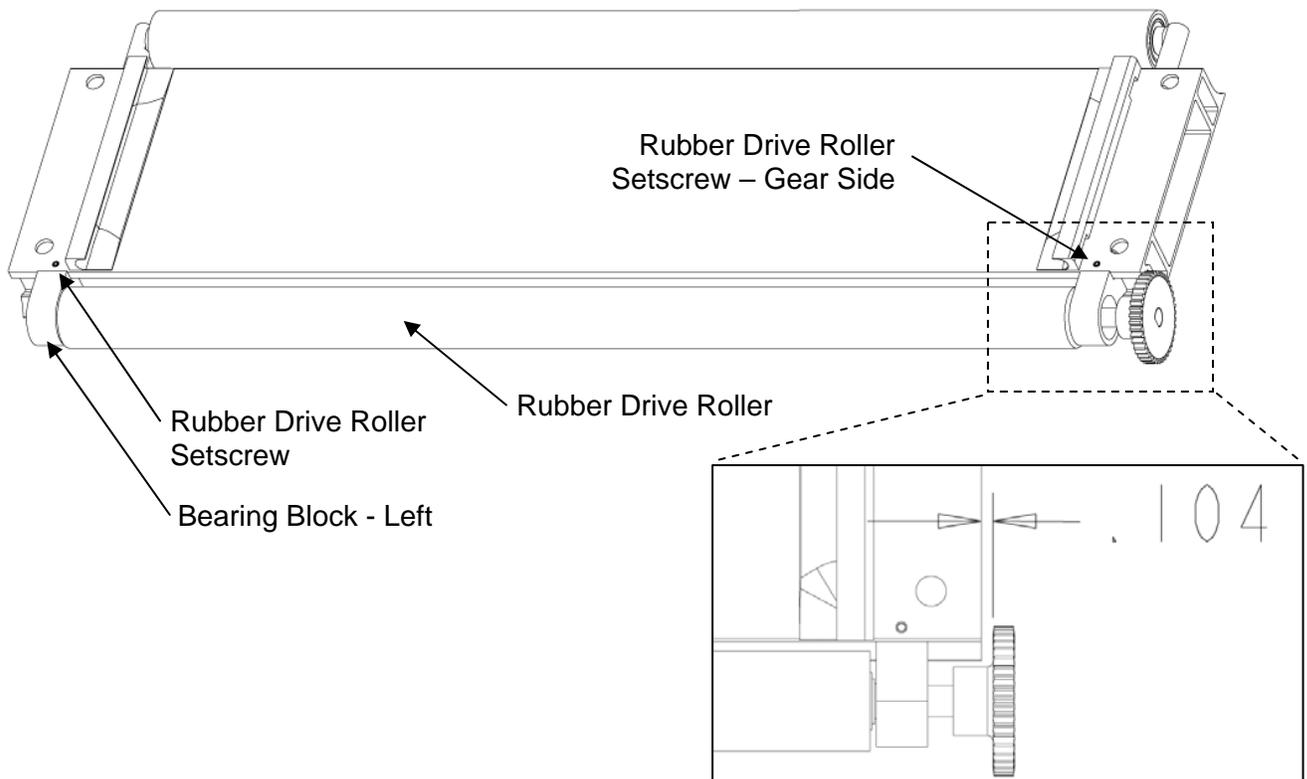

FIGURE 9: CHECKING THE SPACING OF THE DRIVE GEAR
15. **Check for slop in the drive roller.** Grab the rubber drive roller and attempt to move it side to side (in the length direction of the roller). If there is any movement at all you will have to reset this roller. If there is no movement in the roller quickly check the spacing between the inside of the drive gear and the end of the belt plate as shown in Figure 9 by inserting the two stacked dimes. The gap can be slightly larger than the thickness of the two dimes but no less. If the roller is tight and the spacing is correct proceed to Step 17.
16. **Reset the drive roller.** With an Allen wrench, loosen and remove both of the rubber drive roller setscrews (see Figure 9). They have thread cement on them so apply a small amount of heat to them if they will not break free. Set the stack of two dimes against the end of the belt tray and push the roller assembly over until the gear touches them. Add thread cement to and insert the setscrew closest to the drive gear. Tighten firmly. Press the left bearing block toward the drive gear so that there is no side to side slop in the roller and insert the thread cemented setscrew (see Figure 9). Tighten firmly. Verify that the spacing is still correct and that there is no side to side slop in the roller.